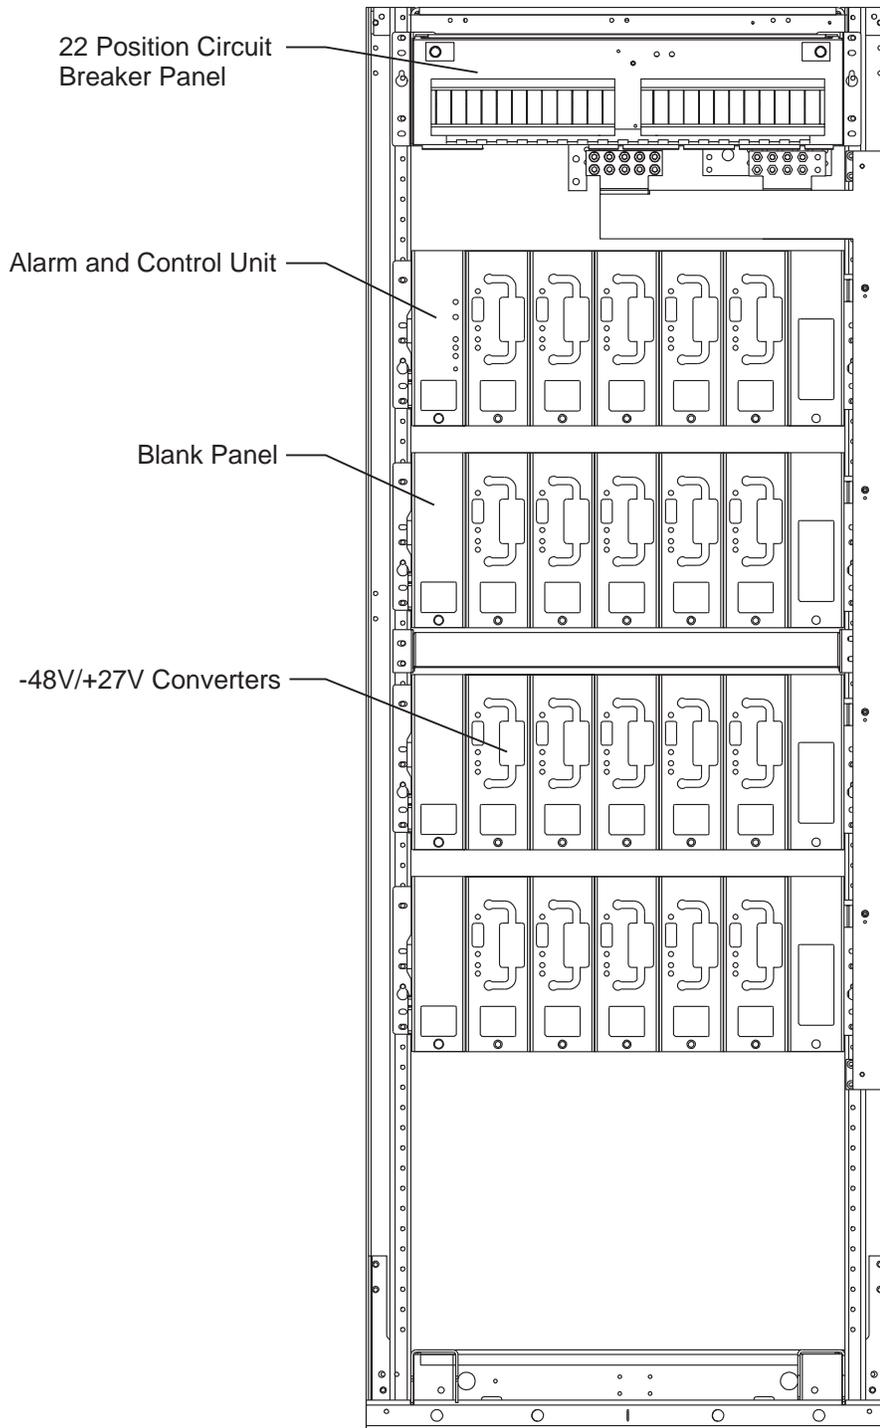

Figure 4-4: CPS Module Positions
The ES643 ACU (alarm control unit) ships loose and is mounted in the initial (top) CPS shelf. Figure 4-4 shows the location of the
- Install each module by placing it on the appropriate power shelf and carefully sliding it toward the backplane until its mounting screw prevents any further backward motion. Figure 4-4 shows the positions of the converters and the distribution panel. Do not seat the power modules until testing of the installation is complete.